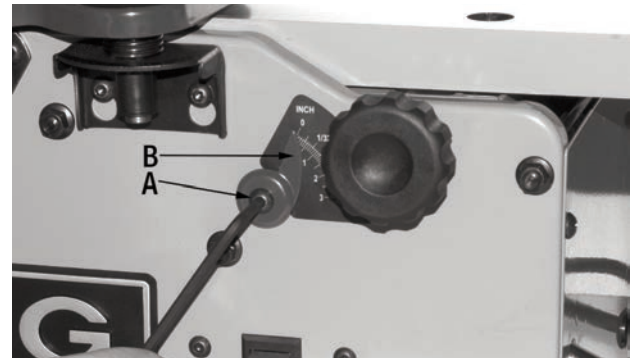

FIGURE 13
- 3) Using a hex. key, loosen the round head allen screw (A) Fig.13 which holds the depth of cut pointer (B) to the cabinet, manually adjust the pointer to read 0 and then retighten the screw (A).